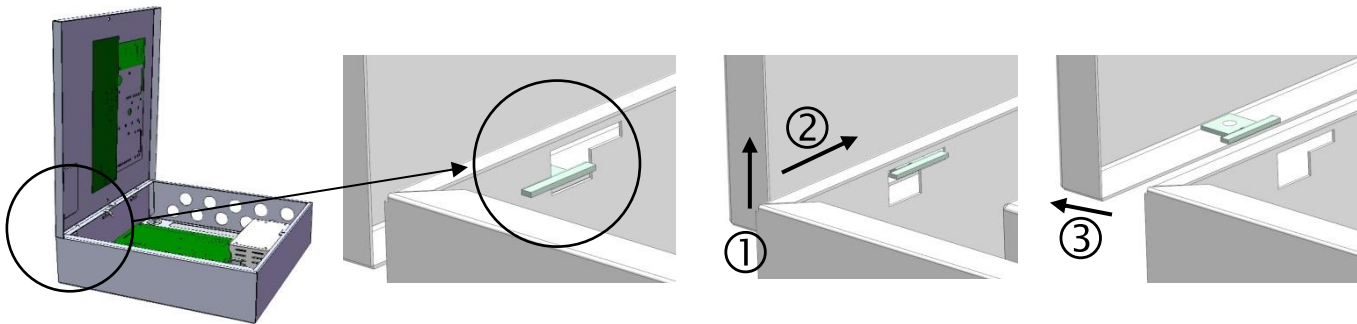

Figure 4
- Remove the front cover as dismount the side hinges first (Figure 4). Do not remove the cables from the terminals on the indication PCB, situated on the back side of the front cover!
- Mount the front cover back to the bottom as mount the hinges in the reverse order of that described on Figure 4.